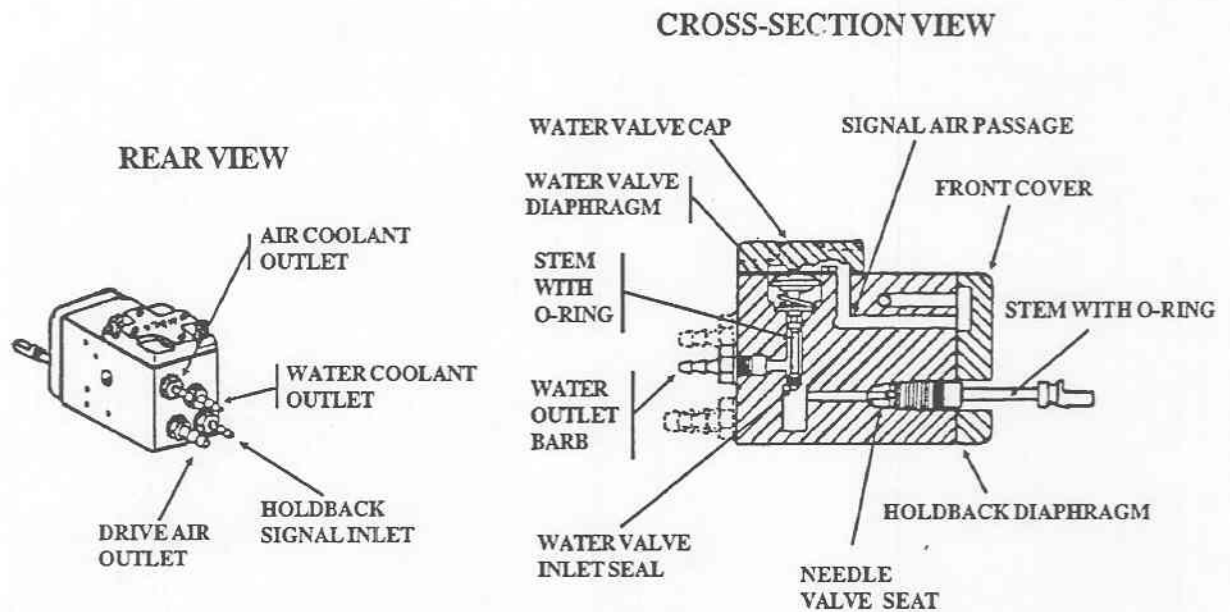

Figure 1-5. Water valve.
(3) The handpiece selector valve supplies the holdback signal that pressurizes cavities in the cover and shuts off the block assembly for the handpiece that is not being used. The selector valve releases the holdback signal from the block assembly for the selected handpiece and allows air to pass through the block to the handpiece.
(4) Water coolant for a handpiece is controlled by an integral water valve in the control block assembly. The water is supplied through a passage from the master block assembly. This passage intersects with the water coolant flow control valve bore. After passing the needle valve seat, the water flows to the inlet seal at the bottom of the water valve stem. Unless the water valve is actuated, the flow of water is blocked at this point.
(5) Actuation of the water valve occurs when air pressure is applied above the water valve diaphragm in the water valve cap. The cross-section view (fig 1-5) depicts how the signal air reaches the water valve cap after passing the holdback diaphragm at the front of the control block. When the signal air reaches the water valve cap, the air deflects the diaphragm downward. This in turn pushes the stem downward and unseats the inlet seal to allow water to flow through the valve to the barb. Releasing the signal pressure allows the spring to push the stem and diaphragm upward to close the valve. This movement of the stem and diaphragm creates a momentary low pressure at the outlet barb as the valve closes. As a result, a small quantity of water is drawn back into the valve to prevent dripping from the handpiece.